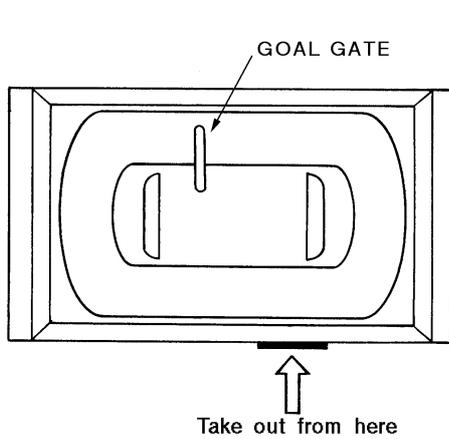
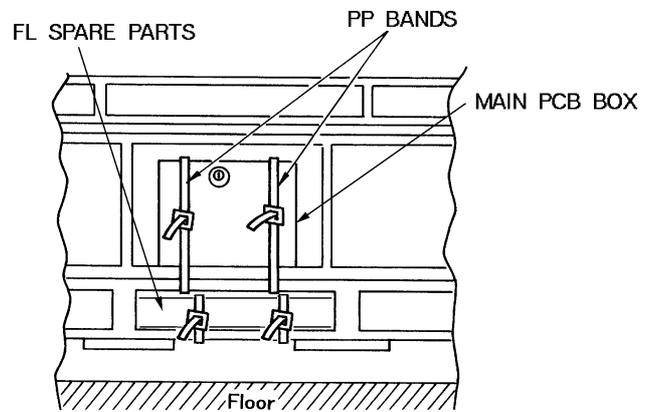

Fig. 12
Fig. 13
- Remove the packing material from the main PCB box of the track unit. Refer to Fig. 12 and Fig. 13.
- Take out the box from under the main PCB box. Refer to Fig. 13.